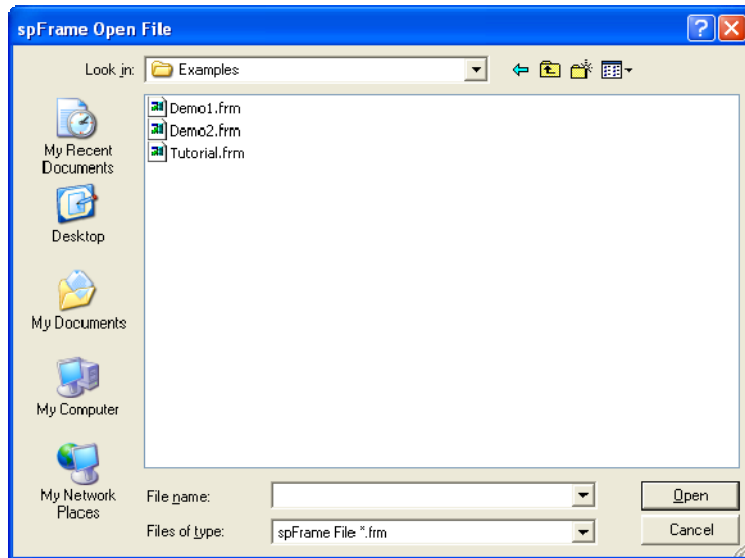

Figure 3-2 Open dialog box
- From the File menu, select Open. The dialog box of Figure 3-2 appears.